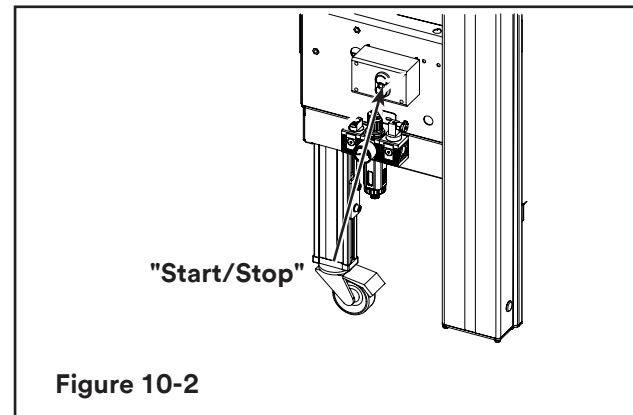

Figure 10-2
- Then press the Station "Start" Button (Figure 10-2).